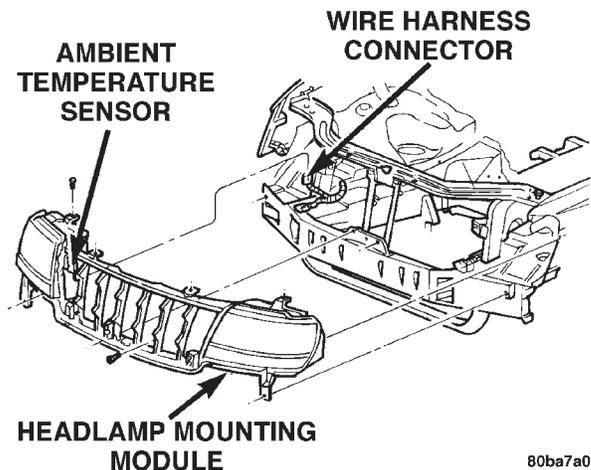

Fig. 5 Ambient Temperature Sensor Remove/Install
- (1) Disconnect and isolate the battery negative cable.
- (2) Locate the ambient temperature sensor, on the right side of the radiator opening in the headlamp mounting module, behind the grille (Fig. 5).